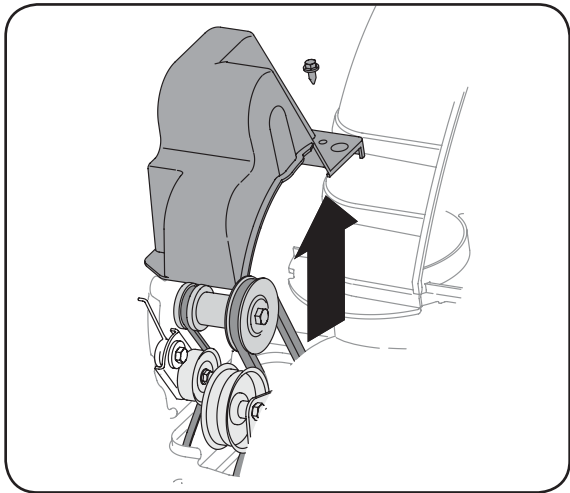

Figure 6-4
1. Remove the plastic belt cover at the front of the engine by removing the two self-tapping screws. See Figure 6-4.
1. Remove the plastic belt cover on the front of the engine by removing the two self-tapping screws. See Figure 6-4.